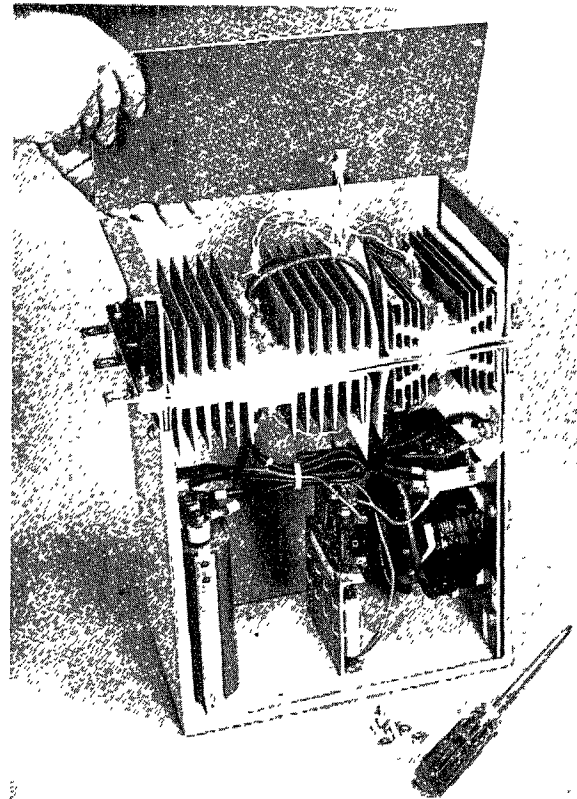

FIGURE 23
4. Remove four (4) machine screws and nuts that secure the front red plastic insulation cover to the inverter phase module
5. Fold back the cover, thereby, exposing the stud mounted SCR heatsinks. The remaining wire harnesses should support the front insulation cover while removing and replacing the defective stud mounted SCR cell. See Fig 23.